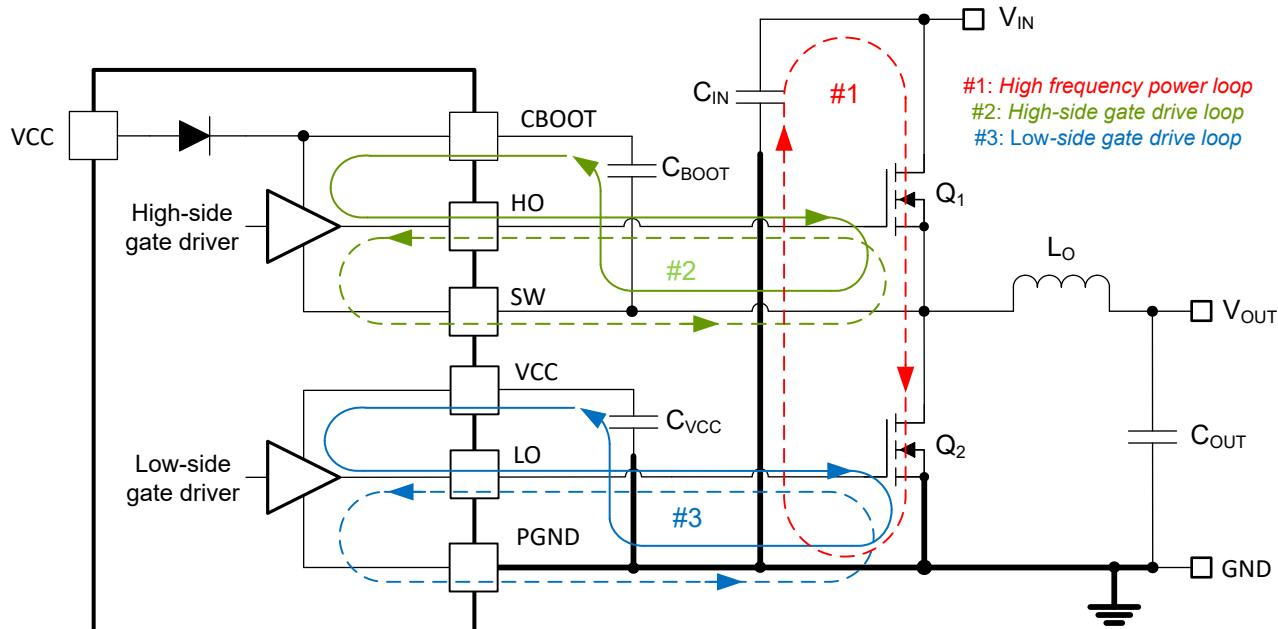

图 9-47. DC/DC Regulator Ground System With Power Stage and Gate Drive Circuit Switching Loops
Proper PCB design and layout is important in a high-current, fast-switching circuit (with high current and voltage slew rates) to achieve a robust and reliable design. As expected, certain issues must be considered before designing a PCB layout using the LM5149. The high-frequency power loop of a buck regulator power stage is denoted by loop 1 in the shaded area of 图 9-47. The topological architecture of a buck regulator means that particularly high di/dt current flows in the components of loop 1, and it becomes mandatory to reduce the parasitic inductance of this loop by minimizing its effective loop area. Also important are the gate drive loops of the high-side and low-side MOSFETs, denoted by 2 and 3, respectively, in 图 9-47.
- Loop 1: The most important loop area to minimize is the path from the input capacitor or capacitors through the high- and low-side MOSFETs, and back to the capacitor or capacitors through the ground connection. Connect the input capacitor or capacitors negative terminal close to the source of the low-side MOSFET (at ground). Similarly, connect the input capacitor or capacitors positive terminal close to the drain of the high-side MOSFET (at VIN). Refer to loop 1 of 图 9-47.
5. The SW pin connects to the switch node of the power conversion stage and acts as the return path for the high-side gate driver. The parasitic inductance inherent to loop 1 in 图 9-47 and the output capacitance (Coss) of both power MOSFETs form a resonant circuit that induces high frequency (greater than 50 MHz) ringing at the SW node. The voltage peak of this ringing, if not controlled, can be significantly higher than the input voltage. Make sure that the peak ringing amplitude does not exceed the absolute maximum rating limit for the SW pin. In many cases, a series resistor and capacitor snubber network connected from the SW node to GND damps the ringing and decreases the peak amplitude. Provide provisions for snubber network components in the PCB layout. If testing reveals that the ringing amplitude at the SW pin is excessive, then include snubber components as needed.
- Loop 2: high-side MOSFET, Q1. During the high-side MOSFET turn-on, high current flows from the bootstrap (boot) capacitor through the gate driver and high-side MOSFET, and back to the negative terminal of the boot capacitor through the SW connection. Conversely, to turn off the high-side MOSFET, high current flows from the gate of the high-side MOSFET through the gate driver and SW, and back to the source of the high-side MOSFET through the SW trace. Refer to loop 2 of 图 9-47.
- Loop 3: low-side MOSFET, Q2. During the low-side MOSFET turn-on, high current flows from the VCC decoupling capacitor through the gate driver and low-side MOSFET, and back to the negative terminal of the capacitor through ground. Conversely, to turn off the low-side MOSFET, high current flows from the gate of the low-side MOSFET through the gate driver and GND, and back to the source of the low-side MOSFET through ground. Refer to loop 3 of 图 9-47.